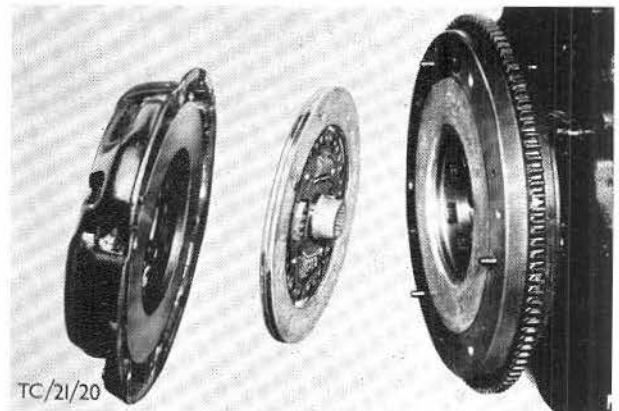

Fig. 18. Clutch pressure plate with clutch disc and flywheel.
2. Remove clutch pressure plate (6 bolts) and clutch disc, Fig. 18.